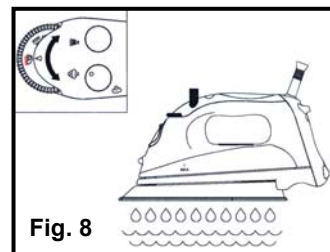

Fig. 8
5. Turn the variable steam control dial all the way to the right to the self-cleaning position and hold the iron horizontally over the sink. (Fig. 8).